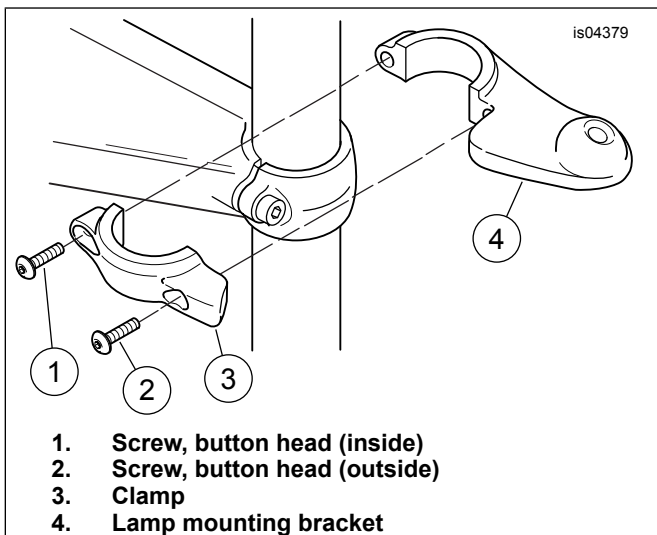

Figure 1. Install Mounting Bracket on Fork Tube (Right Side Shown)
4. See Figure 1. Position the right-side mounting bracket (4) and clamp (3) on the right-side fork tube as shown. Loosely fasten with two button-head screws. Tighten first the outboard screw (2), then the inboard screw (1) to 8–9 N·m (70–80 in-lbs).